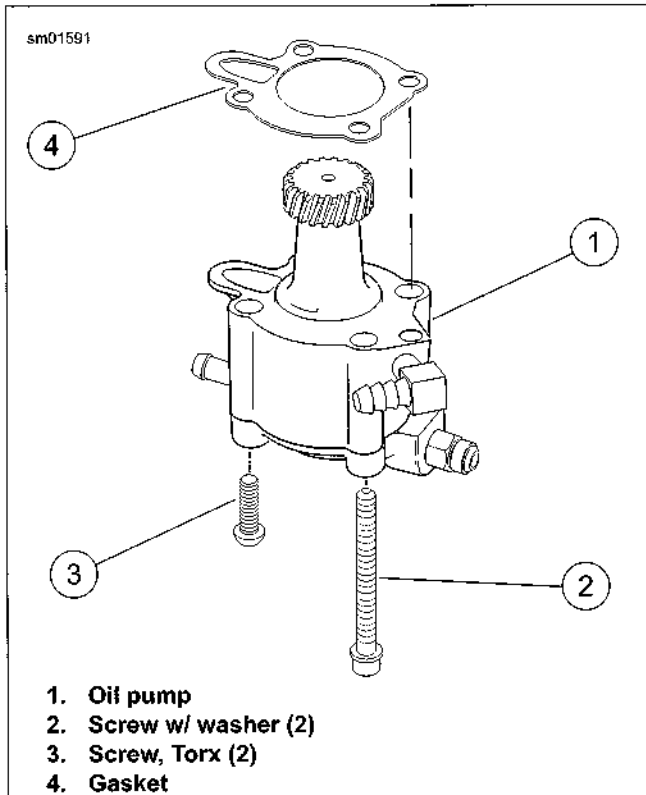

Figure 3-78. Oil Pump
2. See Figure 3-78. Carefully remove two screws (2) that secure pump to crankcase. Pump will drop with screws removed. Discard mounting gasket.